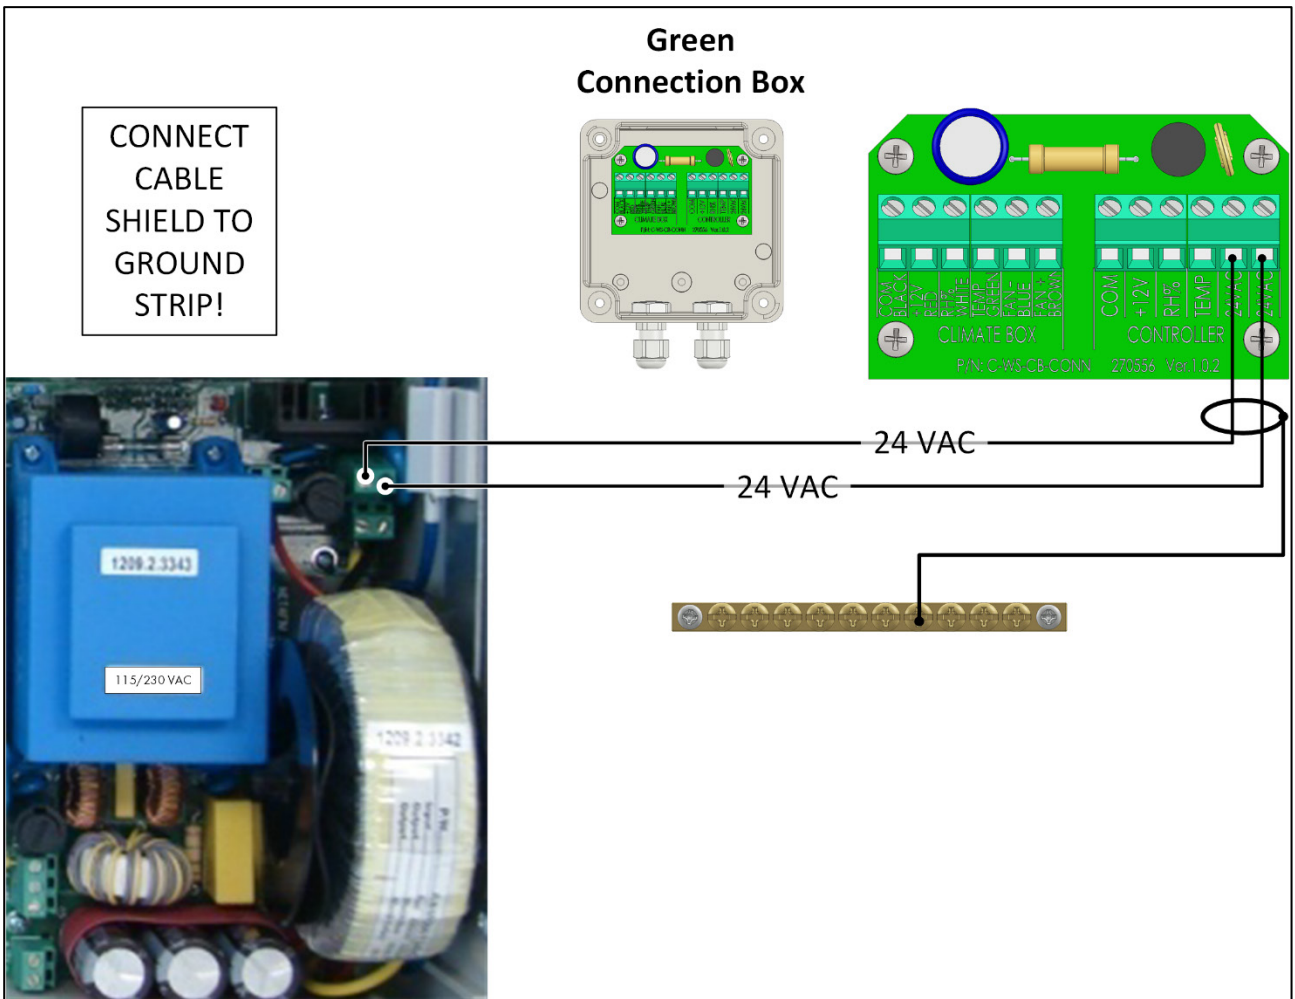

Figure 3: Powering the Fan
- Refer to Figure 3 for details on the fan power supply.